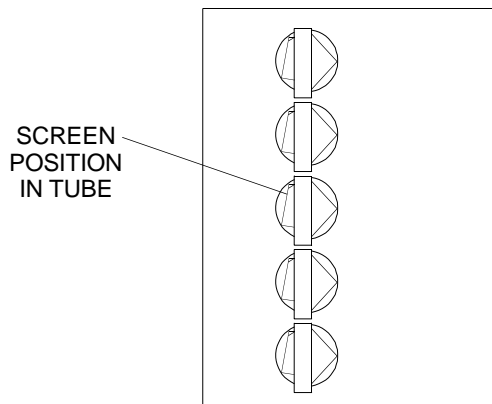

FIGURE 1 - POSITIONING OF SCREENS IN TUBES
3. Install a screen into each heat exchanger tube. (Refer to Figure 1 and 2 for position of screen).